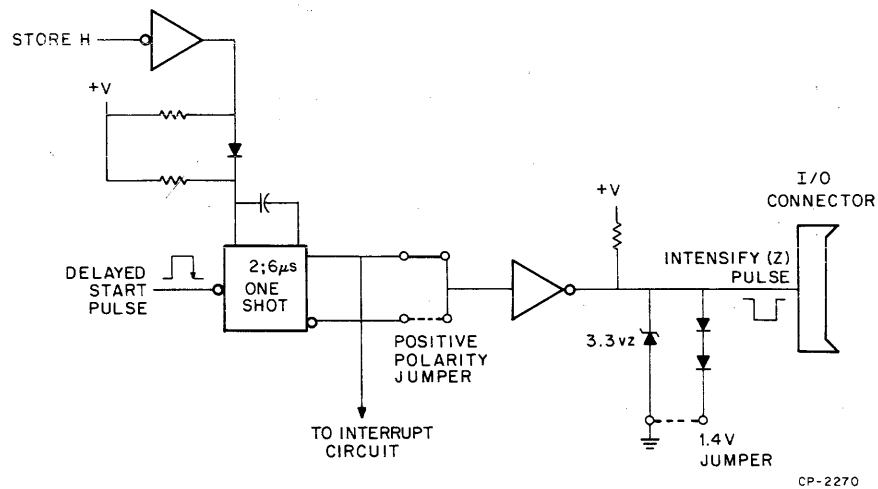

Figure 2-3 INTENSIFY (Z) Pulse
The pulse can have positive or negative polarity (jumper selectable) and jumper selectable amplitude. The INTENSIFY (Z) pulse circuit is shown in Figure 2-3.